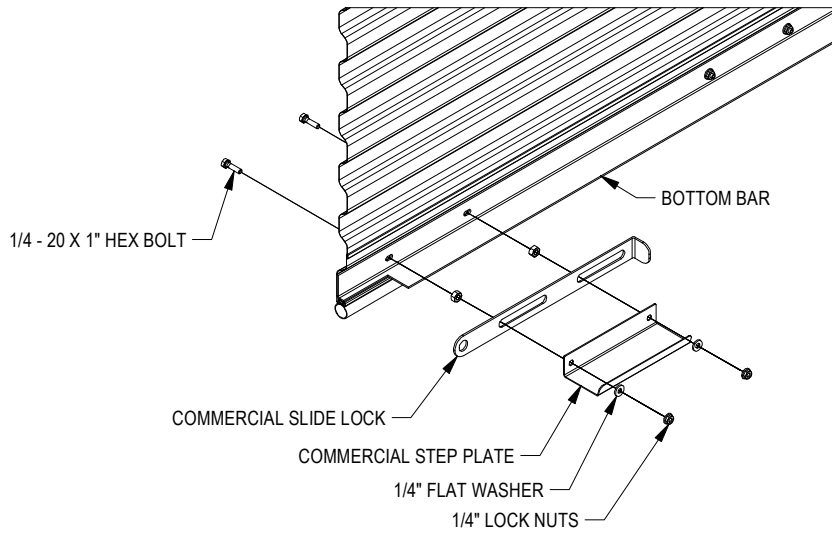

FIGURE 16:
- ▶ For a chain hoist operated door, install commercial step plates and commercial slide locks at each end on inside of bottom bar. **See Figure 16.**